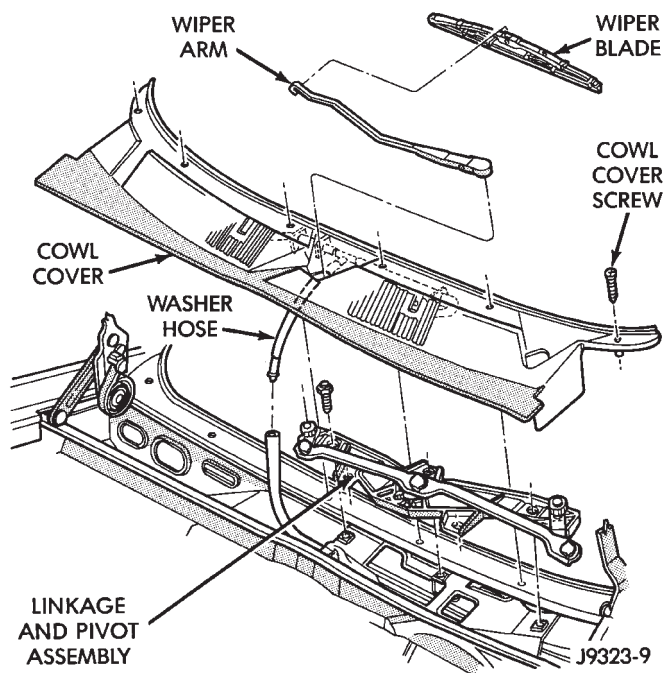

Fig. 17 Cowl Grille Components
(3) Remove 6 screws that attach grille to cowl (Fig. 17).
(5) Remove cowl grille and screen from cowl (Fig. 17).